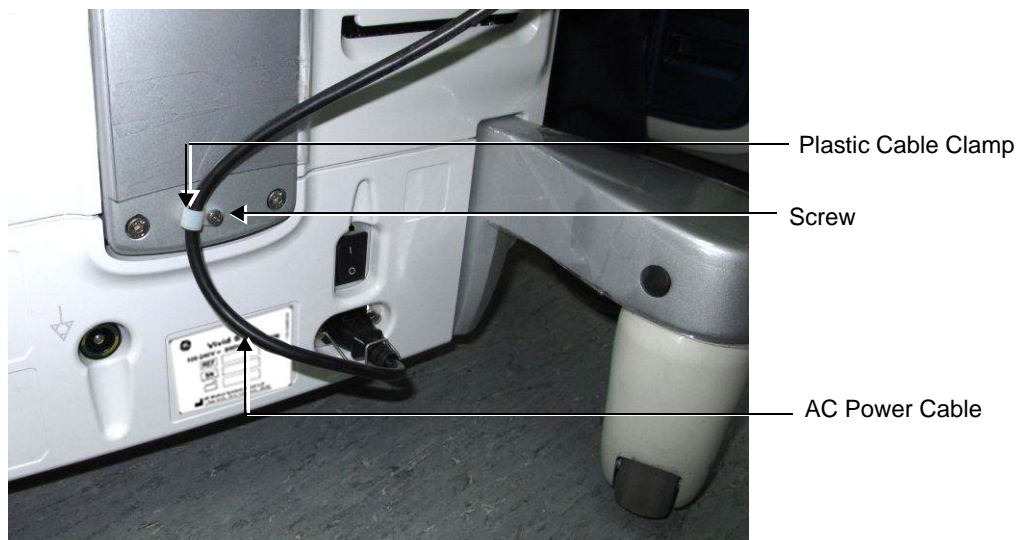

Figure 4-3 AC Power Cable Secured with Plastic Cable Clamp
- a.) Loosen the screw to open the plastic cable clamp (see Figure 4-3).